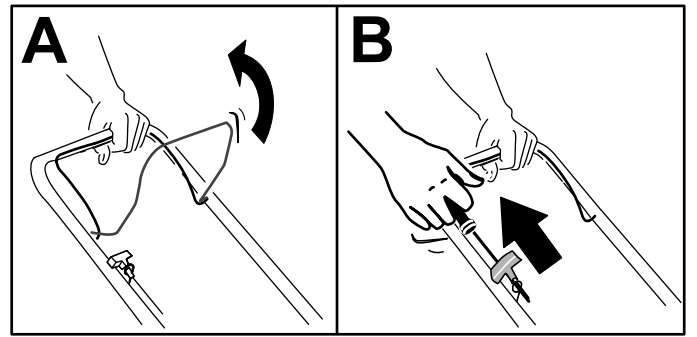

Figure 12
1. Hold the blade-control bar against the handle (A of Figure 12).
2. Pull the recoil-start handle (B of Figure 12).